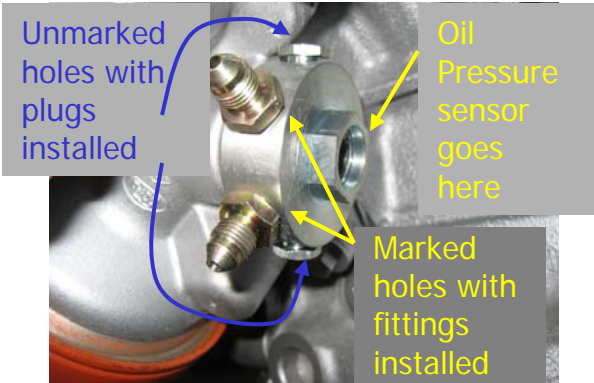

Fig.10
5. Install the two supplied -3 fittings into the two marked holes, and torque to 20Nm (15lb-ft). (Fig 10)